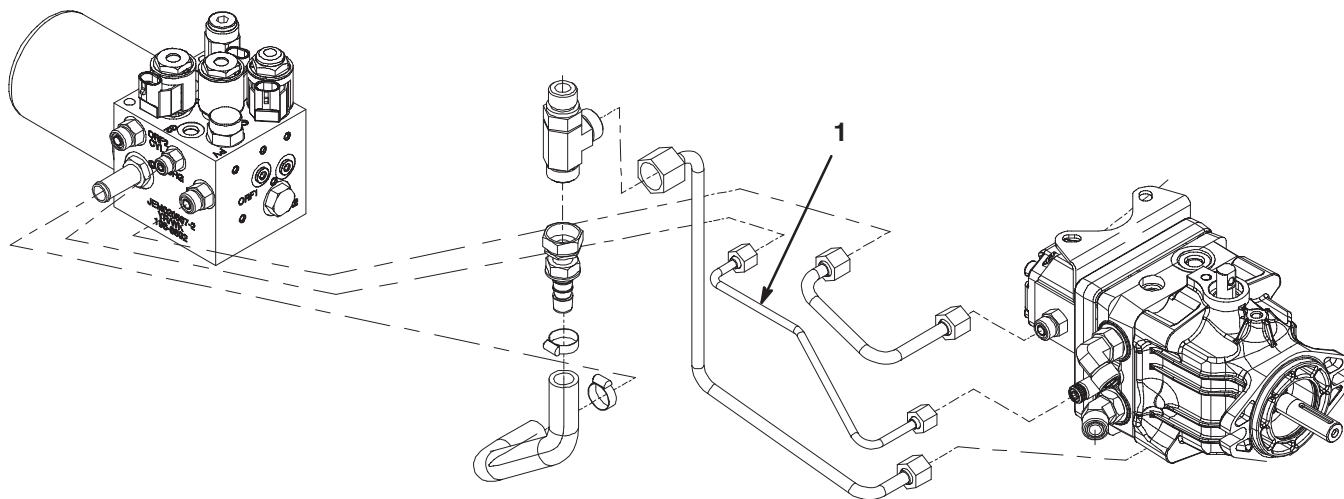

Figure 3
- Remove and discard the 1/4" tube (108-8815) from the manifold "CHG" port (Fig. 3).